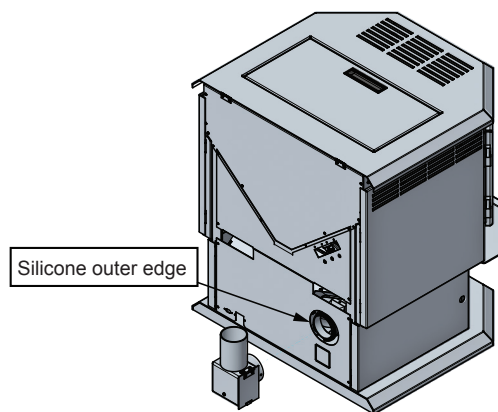

Figure 1
1. Put a 1/4 inch bead of silicone on the outer edge of the appliance exhaust outlet (**Figure 1**). Do not apply silicone inside appliance exhaust outlet.